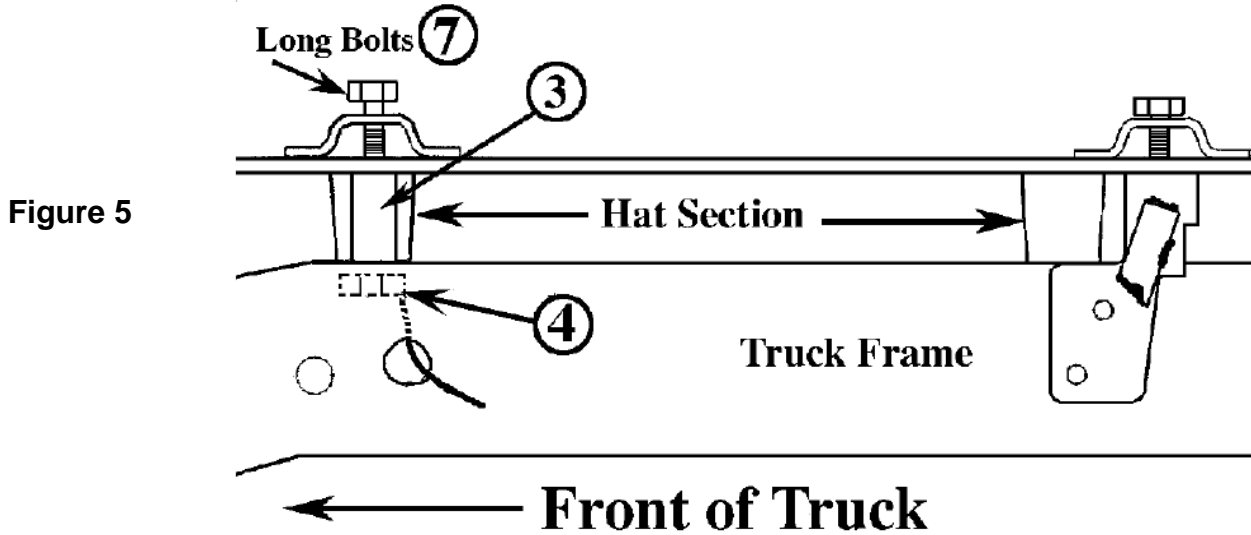

Figure 5
6. Slide tube spacers (#3) into the forward under bed hat section from the open end in each wheel well. See Figure 5.
through all parts and top of frame. See Figure 5.
- On some vehicles there will be an access hole in the bottom of the truck frame, near the front attachment point. If there is no access hole in frame, drill a 1-1/4" diameter access hole in the side of the frame at the location shown on Figure 4. Using the access hole, insert the tapped plate (#4), with wire handle, into the truck frame and align with 5/8" bolt coming down from bed location, as shown on Figure 5. Tighten the 5/8" bolts to 150 ft-lbs. torque.